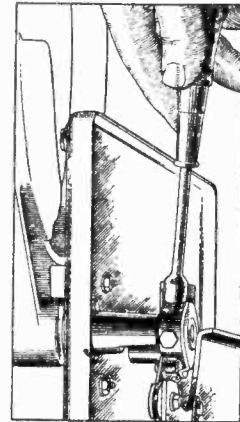

Figure 9—Magazine adjustment
- (b) Improper setting of magazine. The horizontal swing of the magazine should be so adjusted when the mechanism is out of cycle that the outer surface at its nearest point to the nearest side of the turntable spindle is $5\frac{1}{2}$ ". This can be done by loosening the two screws as shown in Figure 9, moving the magazine to its correct position and retightening the screws.
- (b) Loosen the two set screws and remove the magazine lever Figure 9.